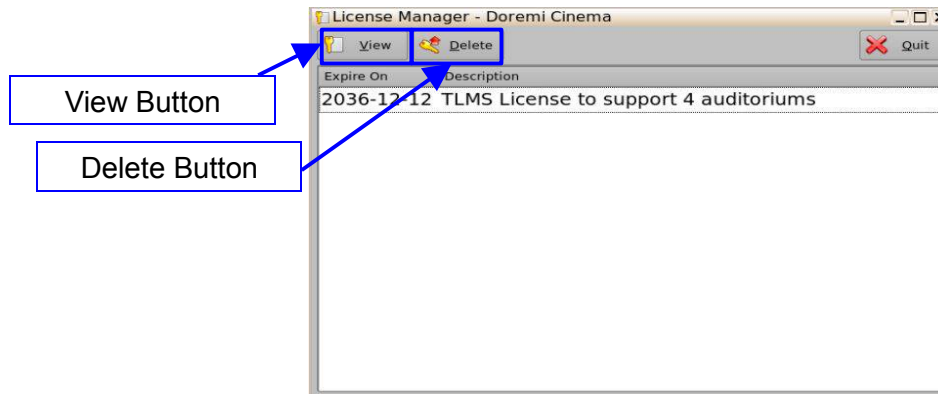
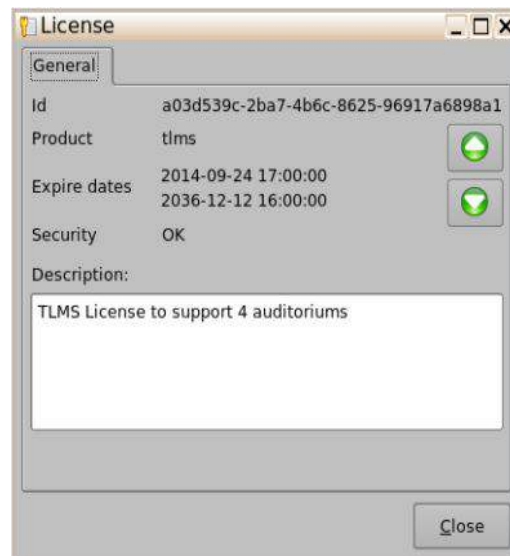

Figure 130: TLMS License Manager Window
Figure 131: License Information Window
The TLMS License Manager application (Figure 130) allows the user to view the available licenses and the number of screens the license supports.
- Click on the View button to open the License information window (Figure 131) containing the information (Figure 130).
- Click on the delete button(Figure 130) to delete the selected license.